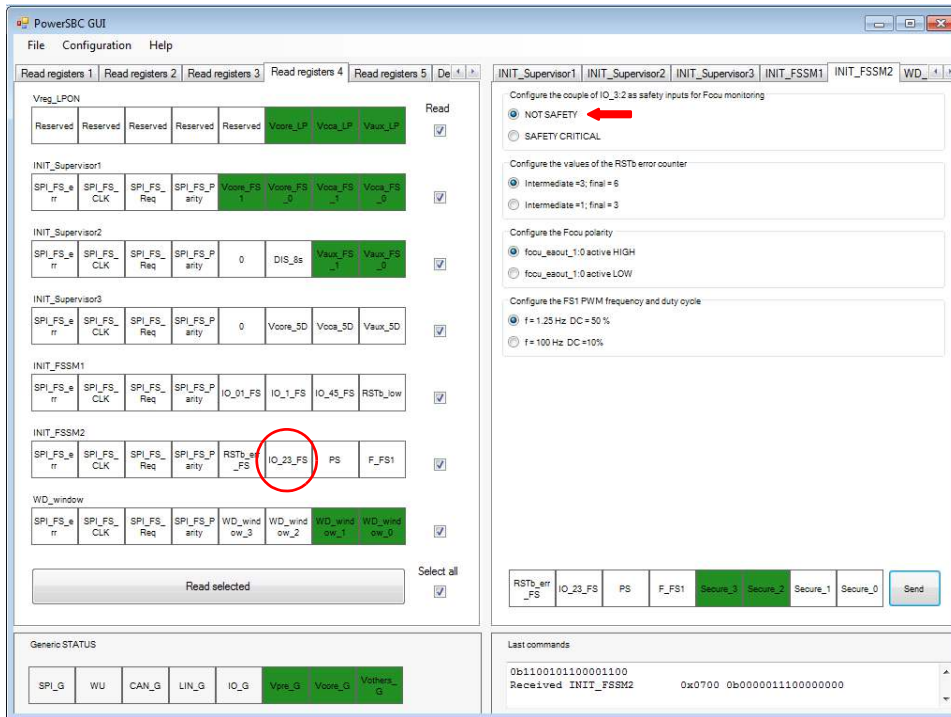

Figure 12. MC33907_8 GUI Register
- In the right side of the GUI, select **Not Safety** and send command as shown in Figure 12.